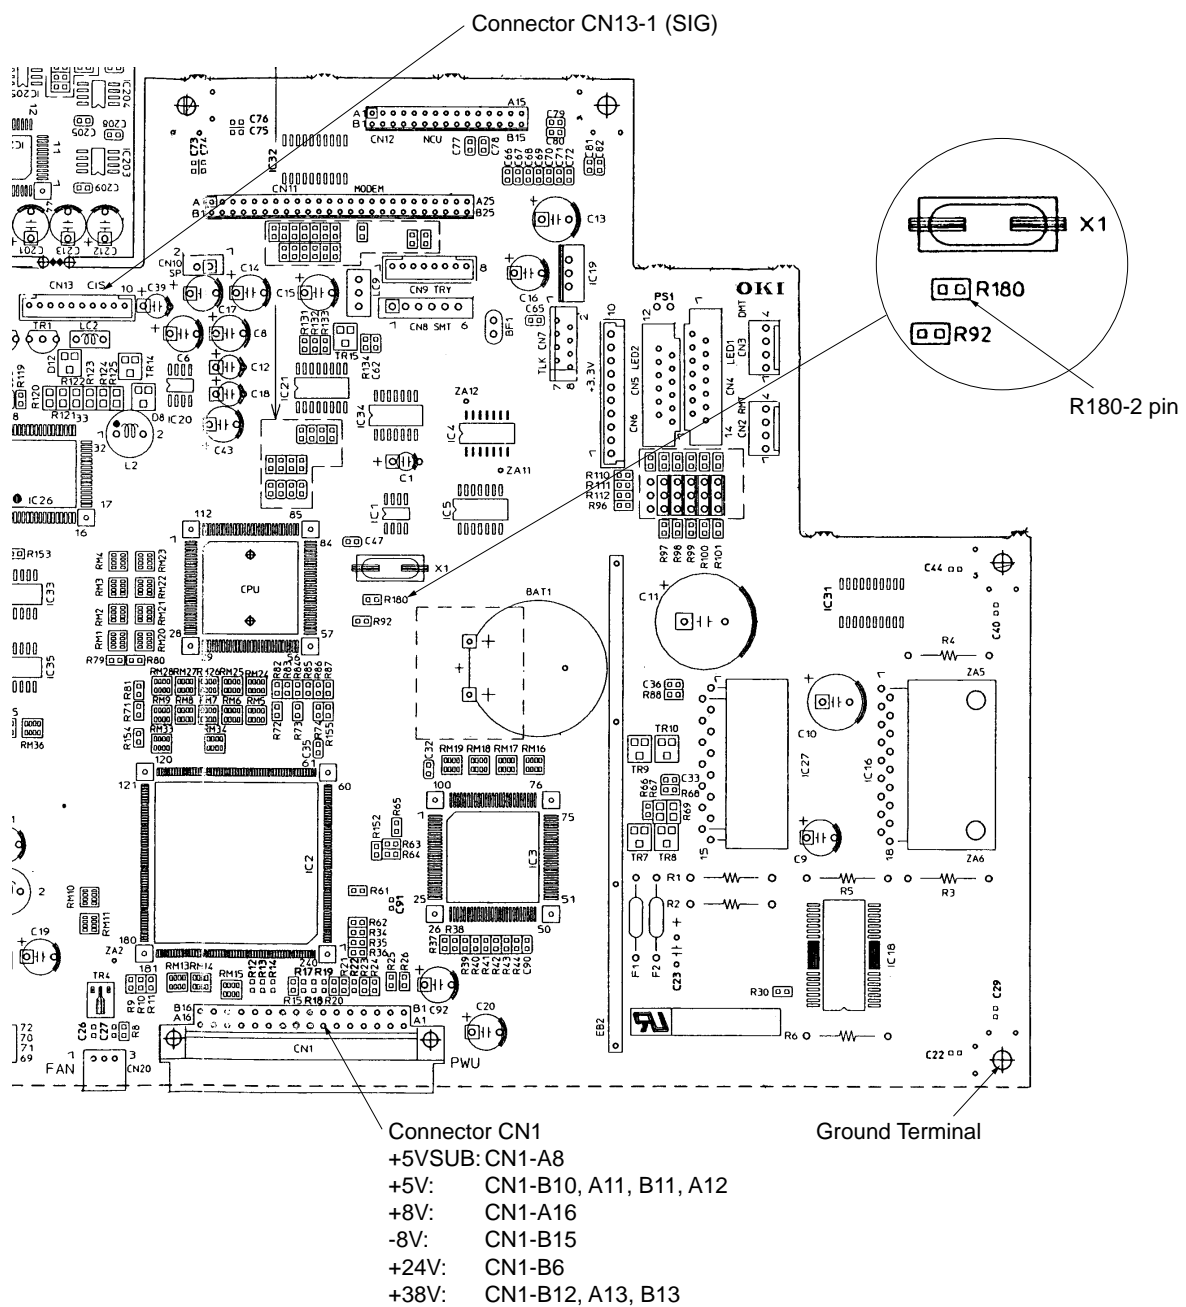

Figure 5.2.1 Measurement Points on E76 Board
- 4) Connect the frequency counter (for clock frequency), digital voltmeter (for power voltage) and Oscilloscope (for SIG signal). See figure 5.2.1.